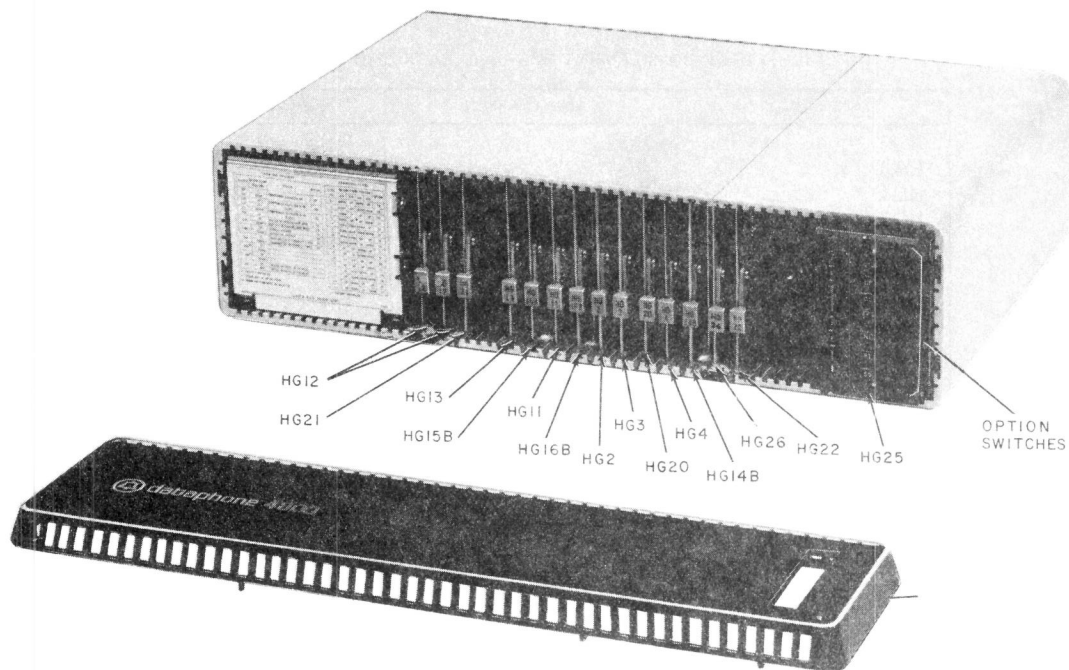

Fig. 5—Data Set 208B-L1B—Front View With Cover Removed
**2.04** A front view of DS 208B-L1 and -L1A with plastic cover removed is shown in Fig. 4. A front view of DS 208B-L1B with plastic cover removed is shown in Fig. 5. Option switches, data set status lamps, and test switches are shown. A summary of the CPs used in each of the DS 208B-type is presented in Table A. Methods used for installing and removing options are explained in detail in Section 592-030-200.